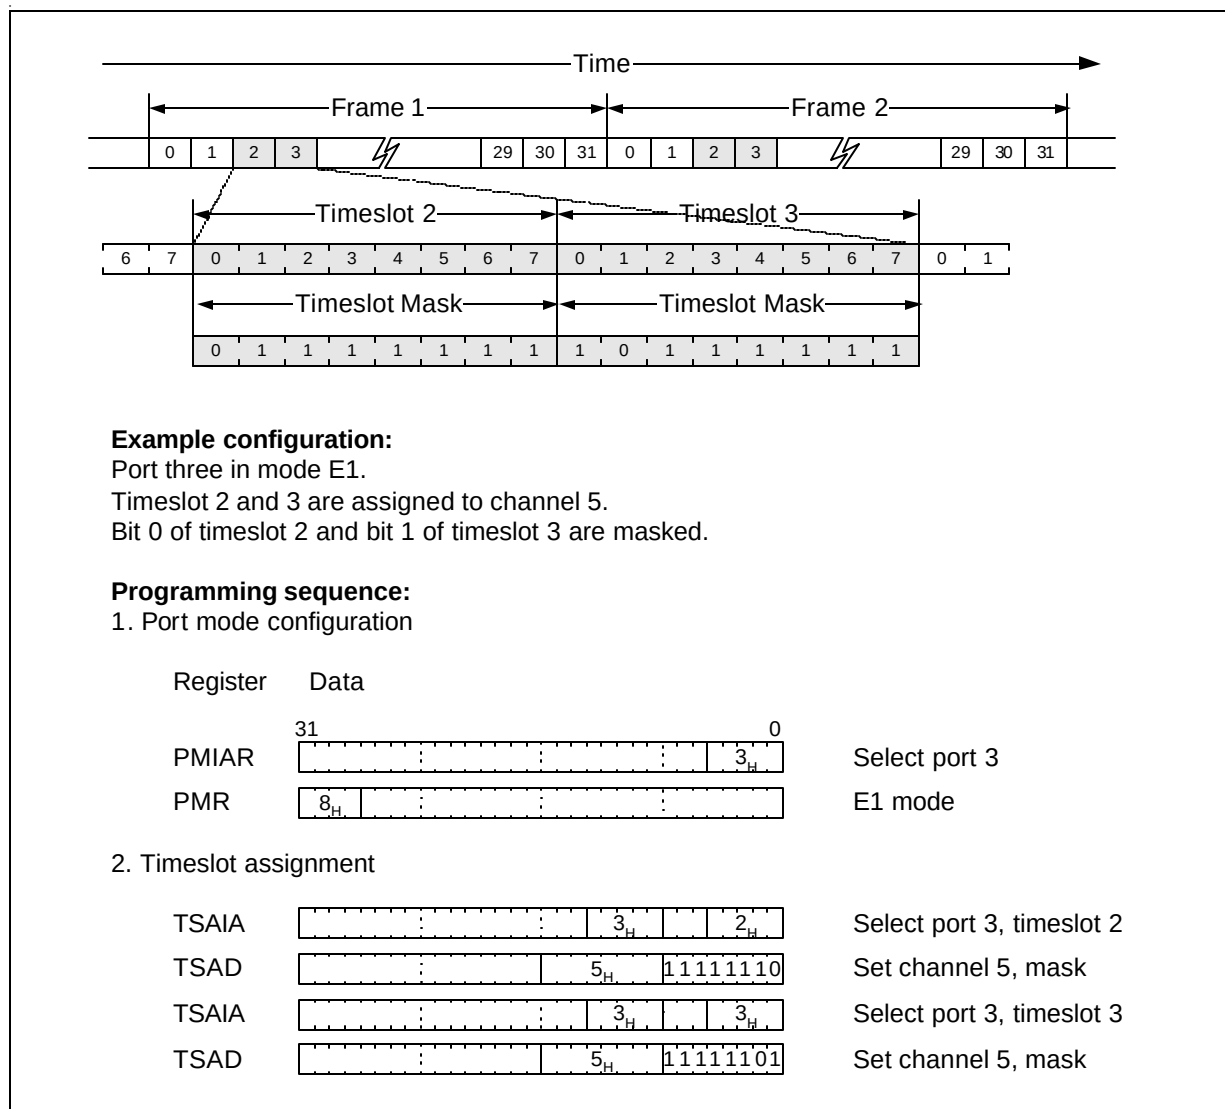

Figure 4-6 Time slot Assignment in Channelized Modes
**Figure4-6** shows a simple assignment process. In this case one port is configured in E1 mode and time slots two and three are assigned to logical channel 5. The bit mask of time slot two is set to  $FE_H$ , which disables bit zero of that time slot, and the bit mask of the third time slot is set to  $FD_H$ , which disables bit one.